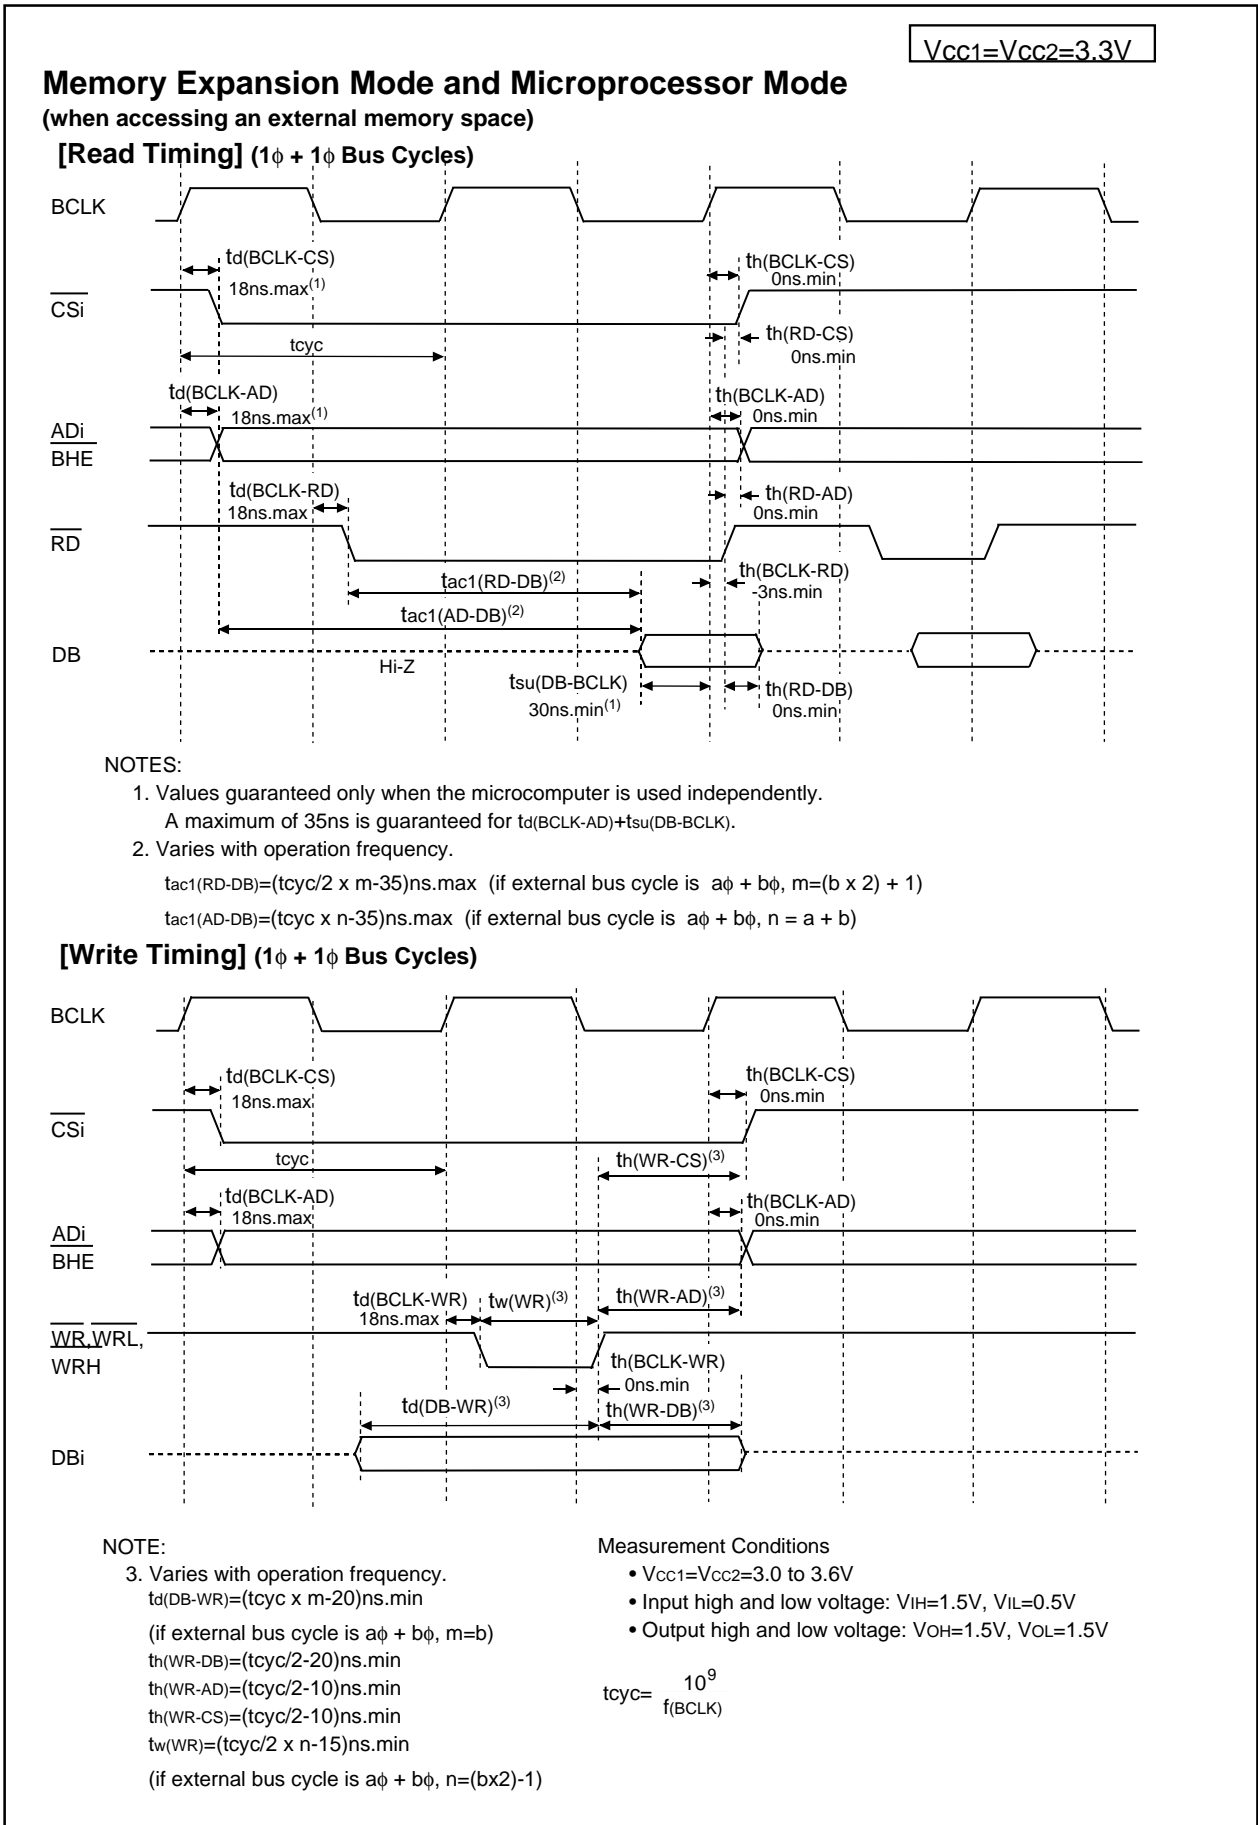

Figure 5.6 V_{CC1}=V_{CC2}=3.3V Timing Diagram (1)
| 52 | • Figure 5.6 Vcc1=Vcc2=3.3V Timing Diagram (1) Expression for tcyc added; note 3 corrected | | |